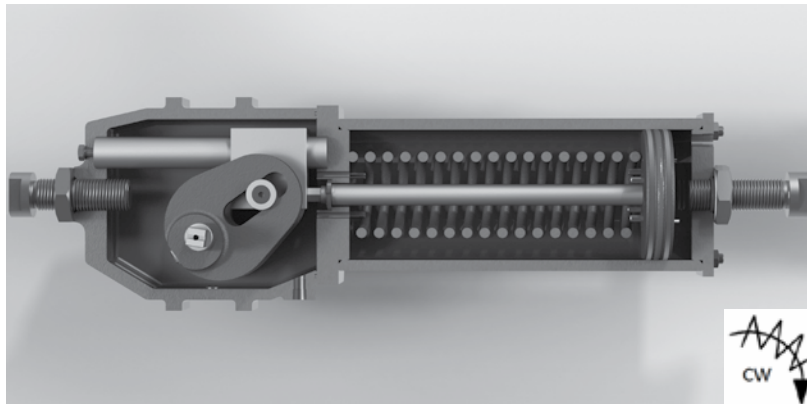

Figure 5: Actuator Configuration: Fail Close – Fail Clockwise – Single Acting
| Figure 5:  | Actuator Configuration: Fail Close – Fail Clockwise – Single Acting        | 9  |
**NOTE:** In the LPC Compact Actuator Series, in single acting execution, the spring is located inside the pneumatic cylinder, as shown in Figures 5 and 6.